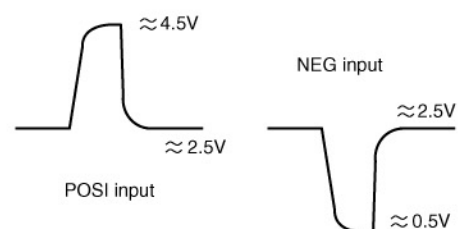

Fig. 5
To use the IC out of the standard value, remove the filter from pins ⑦ and ⑨, observe the waveform and check for a match with the waveform shown in Figure 5.